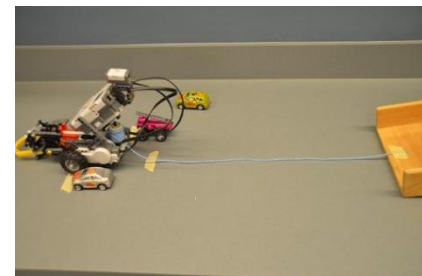

Figure 5
2. *Student:* Drives the Robot to the location marked with a piece of tape. See Figure 5